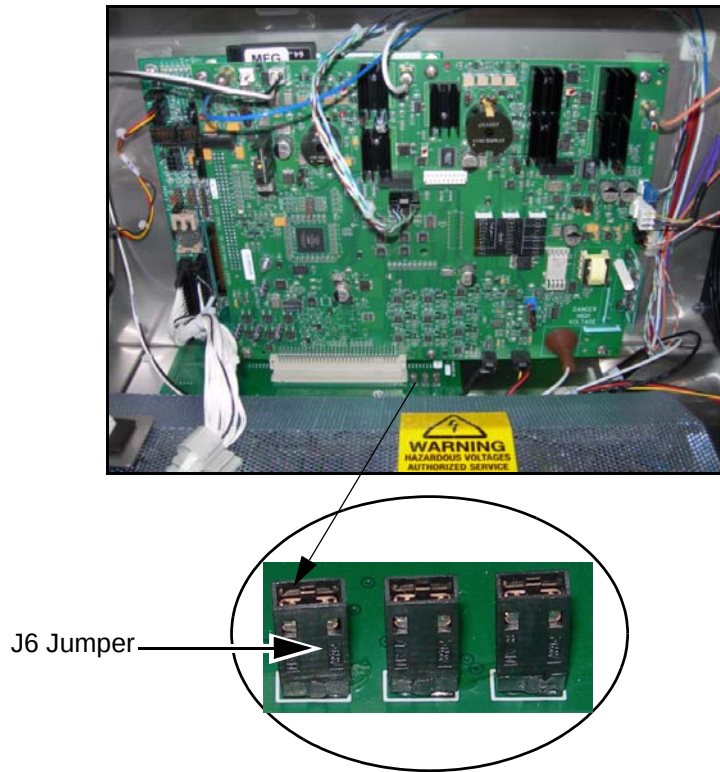

Figure 6-32: J6 Jumper
- 5 Remove the J6 jumper on the bulkhead board (Figure 6-32 on page 6-36).